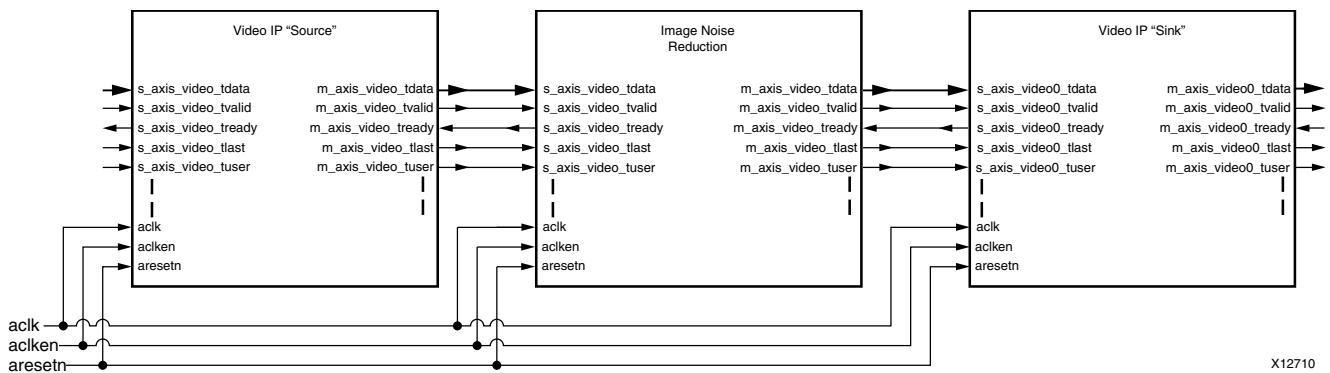

Figure 4-6: Example of ACLK Routing in an ISP Processing Pipeline
The master and slave AXI4-Stream video interfaces use the ACLK clock signal as their shared clock reference, as shown in Figure 4-6.
**Note:** When `ACLKEN` (clock enable) pins are used (toggled) in conjunction with a common clock source driving the master and slave sides of an AXI4-Stream interface, to prevent transaction errors the `ACLKEN` pins associated with the master and slave component interfaces must also be driven by the same signal (Figure 4-6).